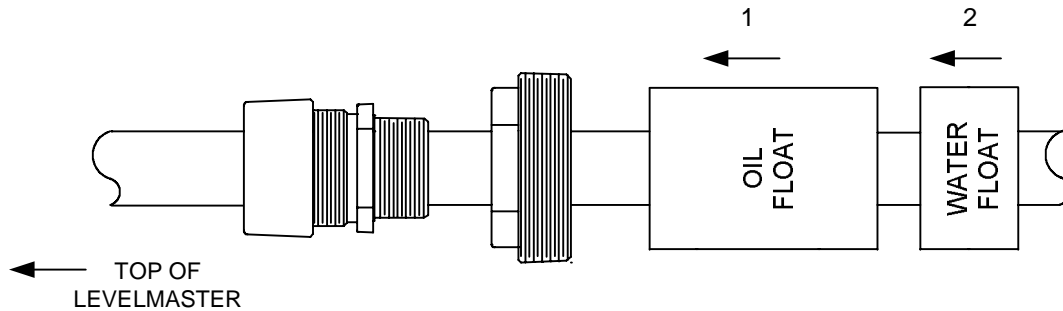

Figure 11: Dual float assembly
- b. If installing two floats, see Figure 11. Install the float labeled OIL first and the float labeled WATER second.